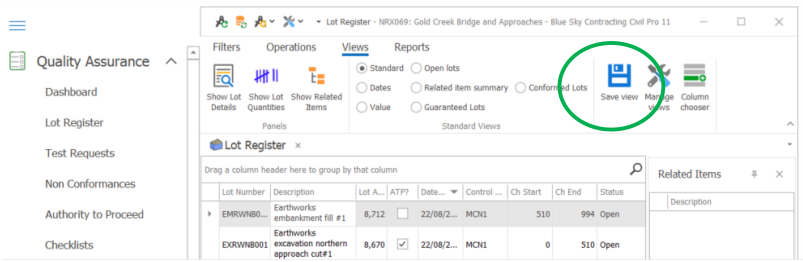

Figure 120 Save View option in ribbon menu
3. To save the current layout select *Save View* from the ribbon menu at the top right of the screen as indicated in Figure 120.